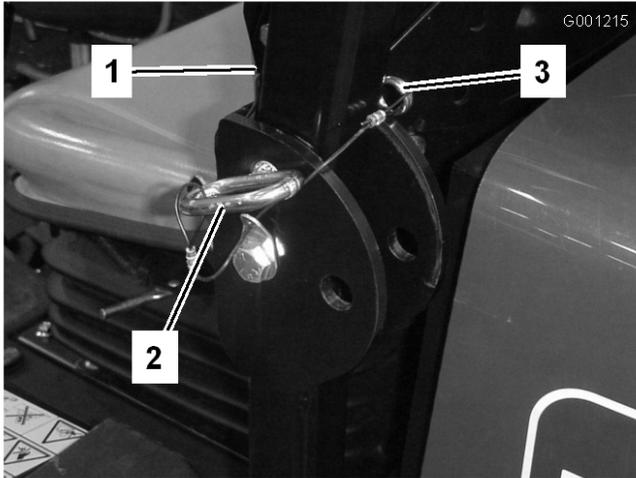

Figure 29
1. To lower the roll bar, remove the hairpin cotter pins and remove the two pins (Figure 29).
3. Install the two pins and secure them with the hairpin cotter pins (Figure 29).
4. To raise the roll bar, remove the hairpin cotter pins and remove the two pins (Figure 29).
5. Raise the roll bar to the upright position and install the two pins and secure them with the hairpin cotter pins (Figure 29).